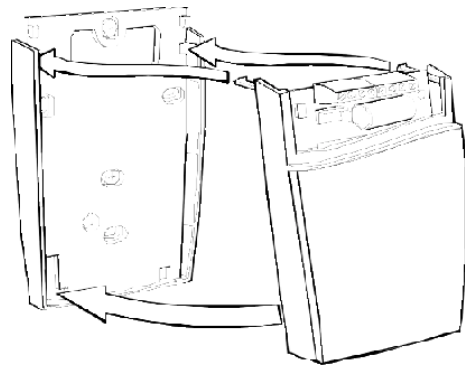

Fig. 3. Mounting the sensor/controller onto the wall plate
2. Engage first the top tabs of the sensor/controller protection case into the top holes of the wall plate and then press the lower edge of the case onto the wall plate to latch (see Fig. 3). Be careful not to damage the temperature sensor.